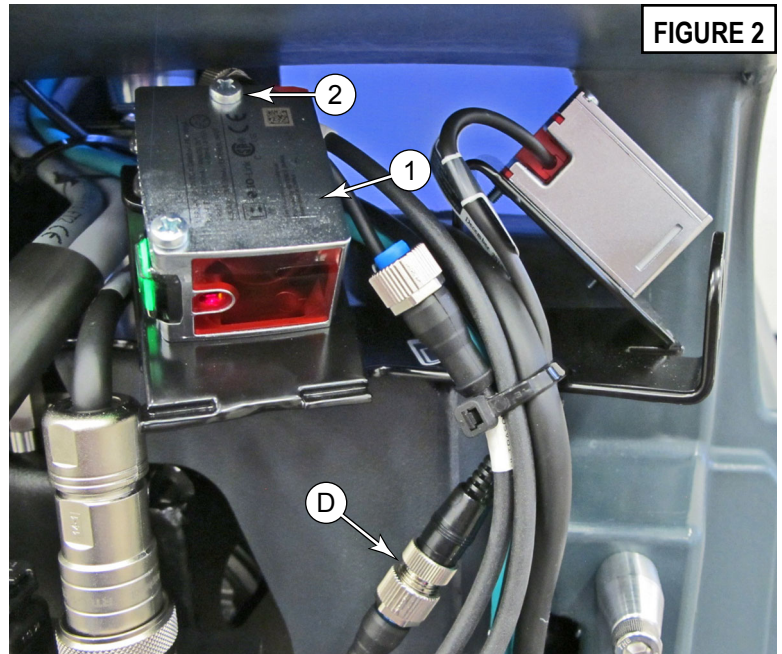

FIGURE 2
3. **See Figures 2 and 3.** Using a right-angle screwdriver, or similar, remove the two screws **(2)** that secure the faulty sensor **(1)** to the sensor bracket **(E)**.